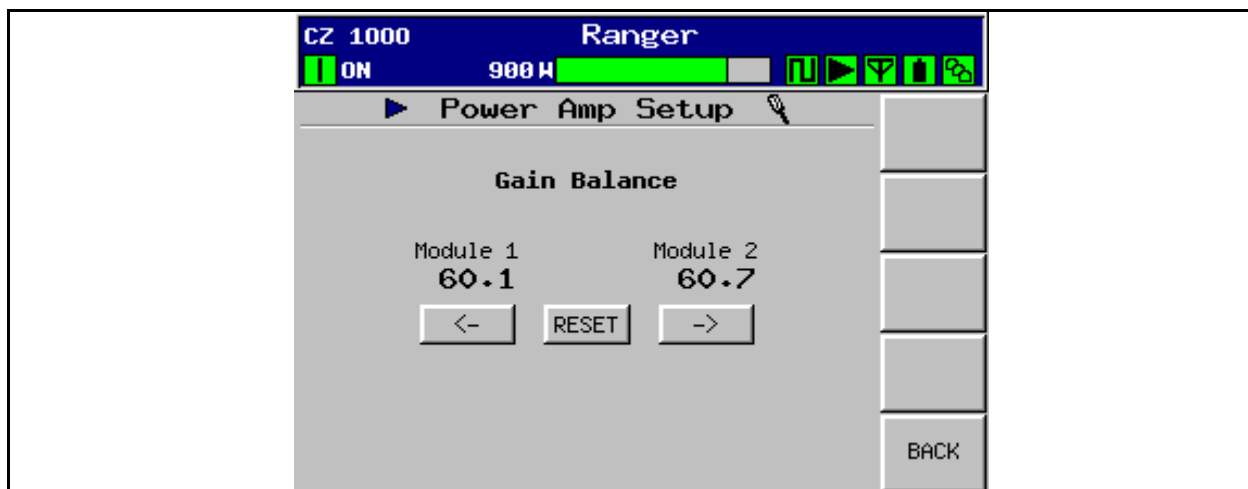

Figure 2-14 PA Setup Screen
- Check the PA Module "Gain Balance" on the PA Setup screen** (press Power Amp, PA Service, PA Setup to get to Figure 2-14). This is adjusted at the factory and does not require re-adjustment as long as the current readings in Figure 2-14 are within 1 amp of each other. If the readings are more than 1 amp apart then perform the following: